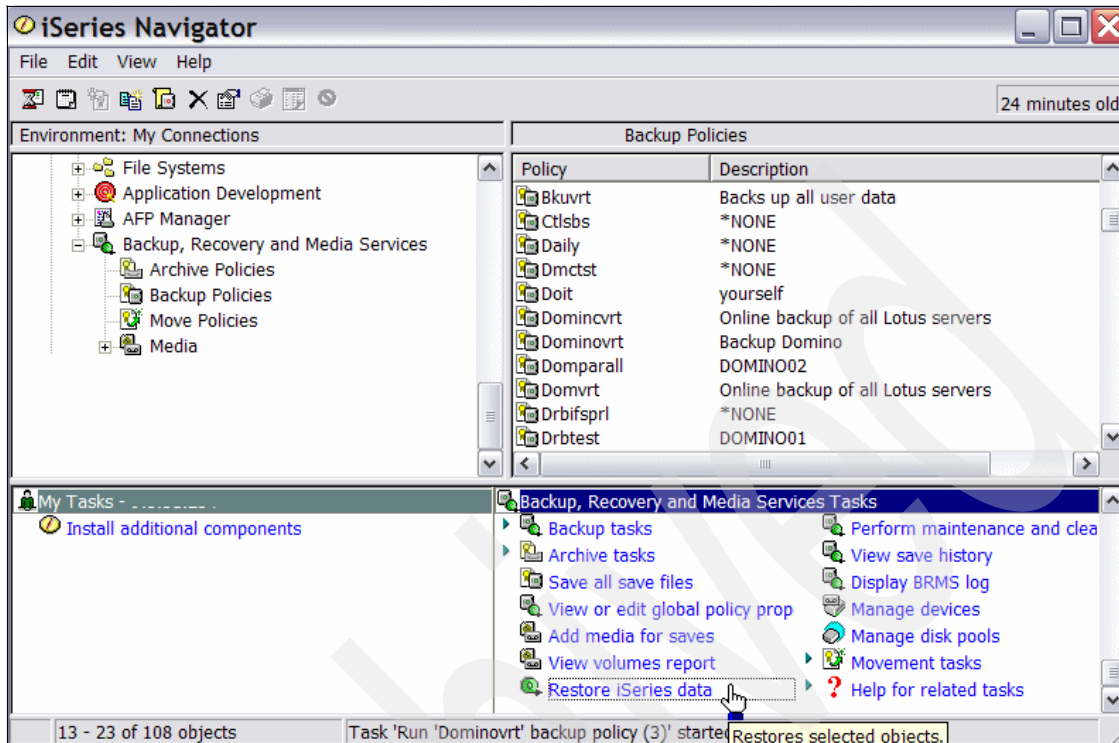

Figure 5-81 Restore Domino data with BRMS, restore icon
1. In Backup, Recovery and Media Services Tasks, click the **Restore iSeries data** icon, as shown in Figure 5-81 on page 263.